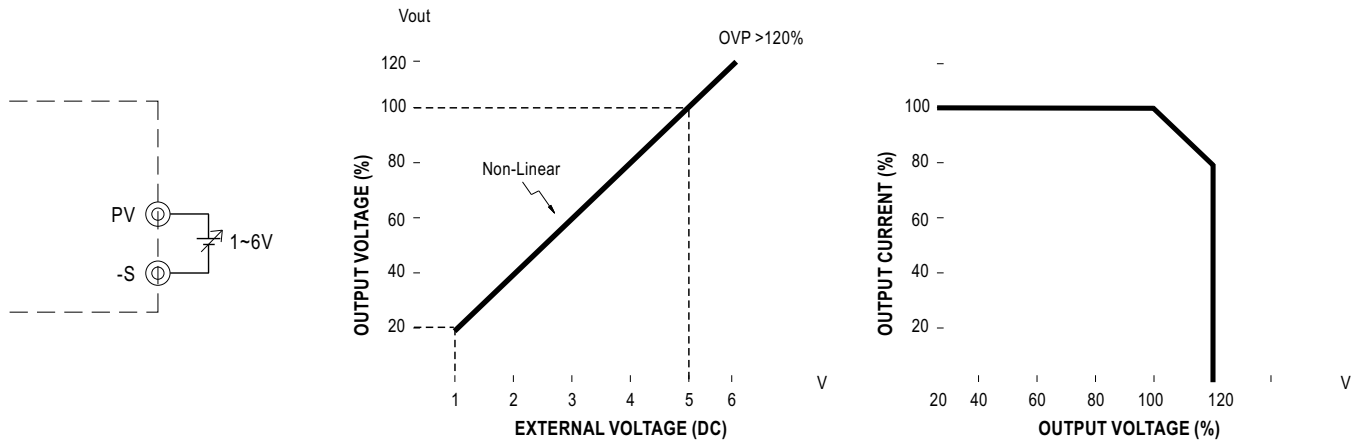

Fig. 3.1 External voltage (Typ.)
- (1) Adjustment of output voltage is possible between 20~110%(Typ.) of the rated output which is shown in Fig. 3.1